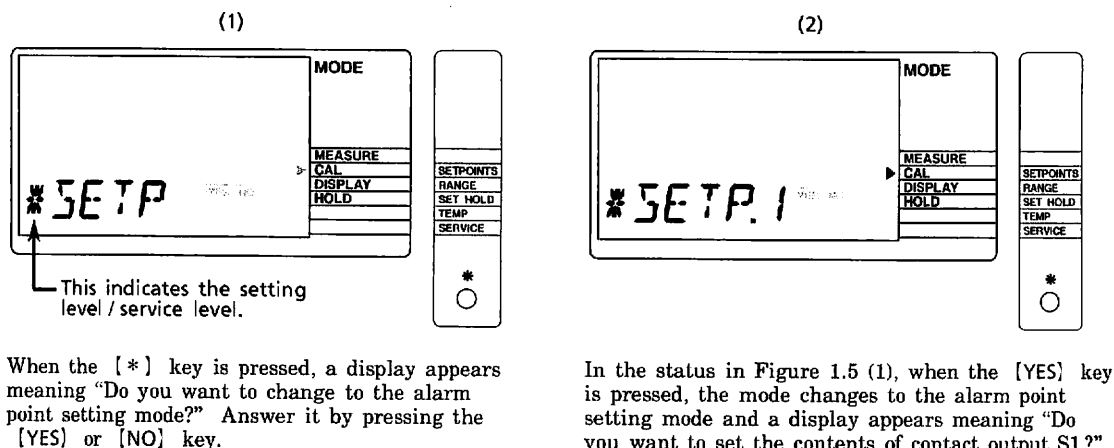

Figure 1.5 Example of Display at Setting Level
When the [YES] key is pressed for the display in Figure 1.5 (2), the display changes to that in Figure 1.6 (1). In this display, changing the data value from 1 mS that has been entered to 500 μ S is given as an example.
- (1) Press the [>] key to make "1" flash.
- (2) Continue to press the [^] key until the flashing "1" goes out.
- (3) Press the [>] key to have "0" begin flashing and enter "5" with the [^] key.
- (4) Hold down the [>] key until the displayed decimal point and unit begin flashing. Then hold down the [^] key until the display of 500 μ S/cm appears.
- (5) Press the [ENT] key. The value of 500 μ S/cm is entered and the display returns to that in Figure 1.5 (1).
When the [YES] key is pressed in the display in Figure 1.5(2), the display changes to one like this.